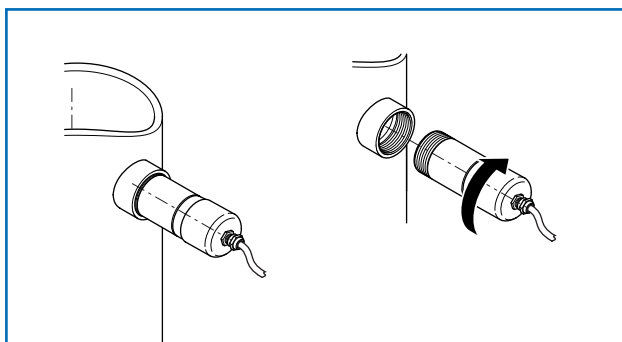

Fig. 3: Thread mounting
- screwed directly into an existing thread type G 1 1/2" (fig. 3)